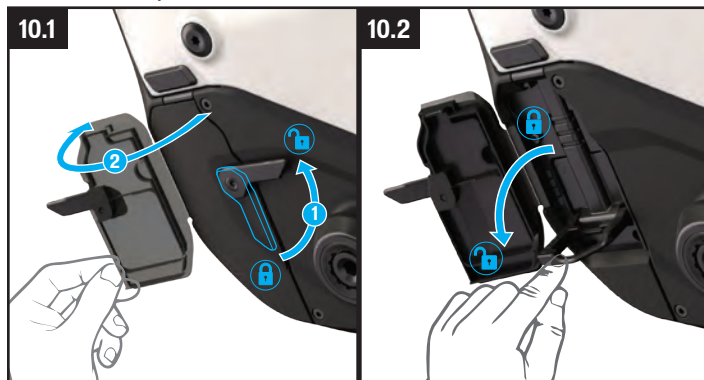

Fig. 10.1
- Re-insert the main harness plug into the port and rotate the lever back to the closed position then close the charge port lid to seal it against water and debris (Fig. 10.1).